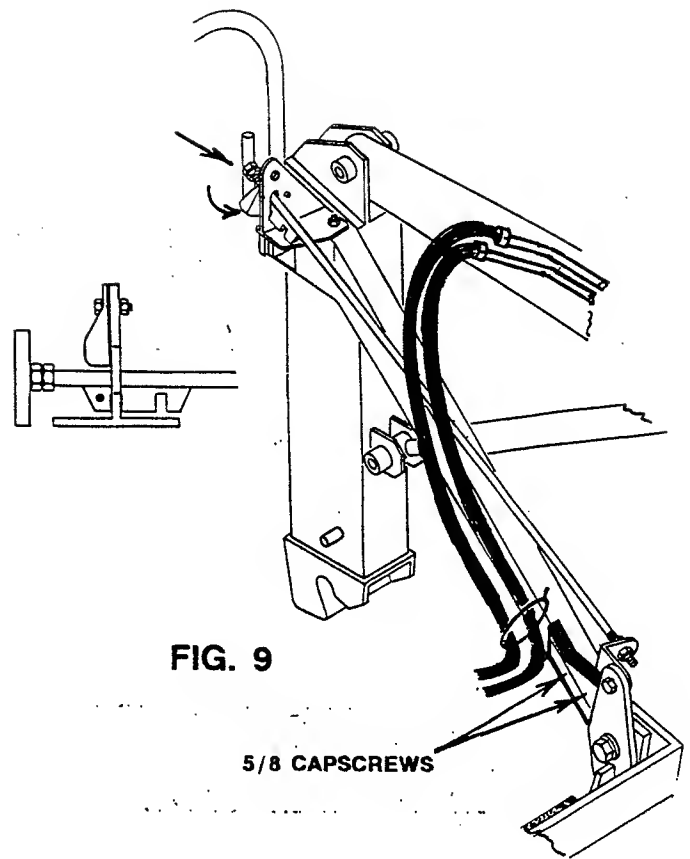

FIG. 9
- Grasp latch rod handle. Lift out of slot and push the latch rod forward and down into the slot to the mounted (latch) position. See Fig. 9.
- Rotate latch keeper to the right and down position. See Fig. 9.
- Tighten (4) 5/8-11 x 2 hex head capscrews that secure the latch frame weldment to the brace arms. Tighten to 180 ft. lbs. Torque so they will not loosen from loader use. See Fig. 9.
- Tie hoses to brace arm on both R. H. & L. H. sides as shown in Fig. 9. Use nylon tie straps.